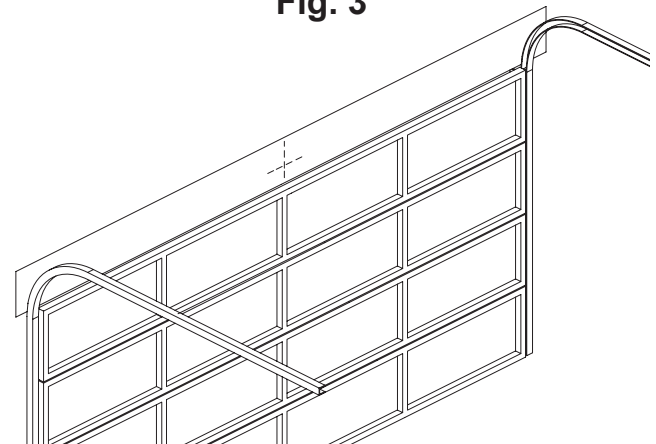

Fig. 4
- 2 Move the door by hand and note the highest point of travel. Make a mark 30mm higher than this position on the lintel Fig. 4.